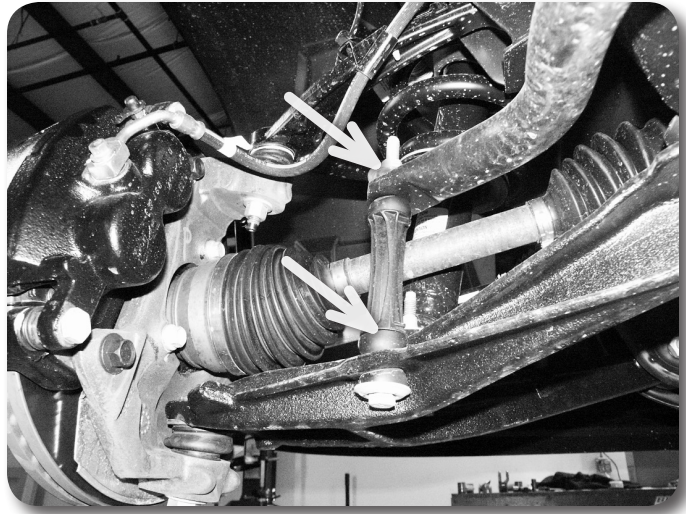

Figure 6
13. Remove the sway bar links from the sway bar and the lower control arm Figure 6.